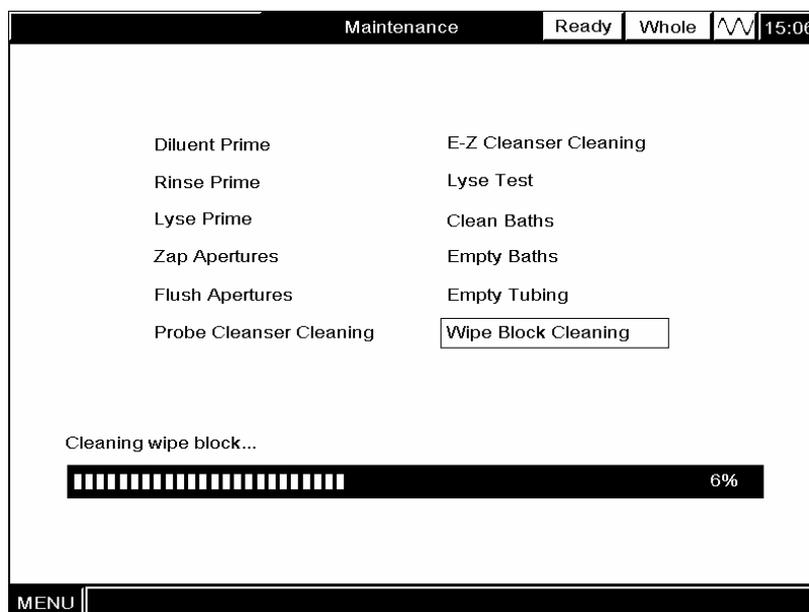

Figure10-25 Cleaning wipe block
6. Press [ENTER] to soak the wipe block with the aspirated cleanser. The soaking progress will be displayed on the screen, as Figure10-25 shows.